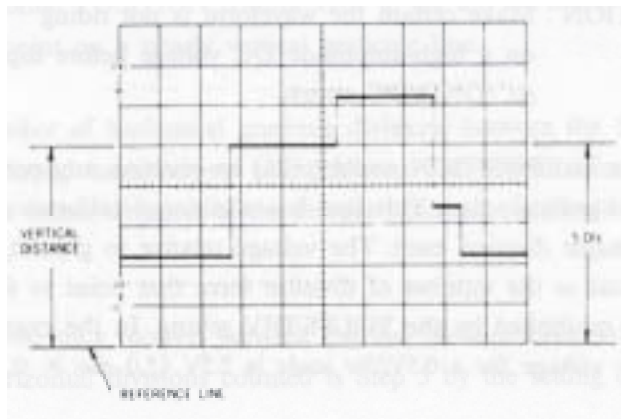

FIGURE 2-7. INSTANTANEOUS VOLTAGE MEASUREMENT
2. Adjust the TIME/DIV switch (22) or (23) for one complete cycle of waveform and set the VOLTS/DIV switch for a trace amplitude of 4 to 6 divisions(see FIGURE 2-7)
3. Flip the AC/GND/DC switch (11) or (12) to GND.
4. Use the appropriate Vertical POSITION control (17) or (18) to set the baseline on the central horizontal graticule line. However, if you know the signal voltage is wholly positive, use the bottommost graticule line. If you know the signal voltage is wholly negative, use the uppermost graticule line.
6. Use the Horizontal POSITION control (26) to position any point of interest on the central vertical graticule line. This line has additional calibration marks equal to 0.2 major division each. The voltage relative to ground at any point selected is equal to the number of division from that point to the ground-reference line multiplied by the VOLTS/DIV setting. In the example used for Figure 2-7 the voltage for a 0.5V/div scale is 2.5V (5.0 div X 0.5V).